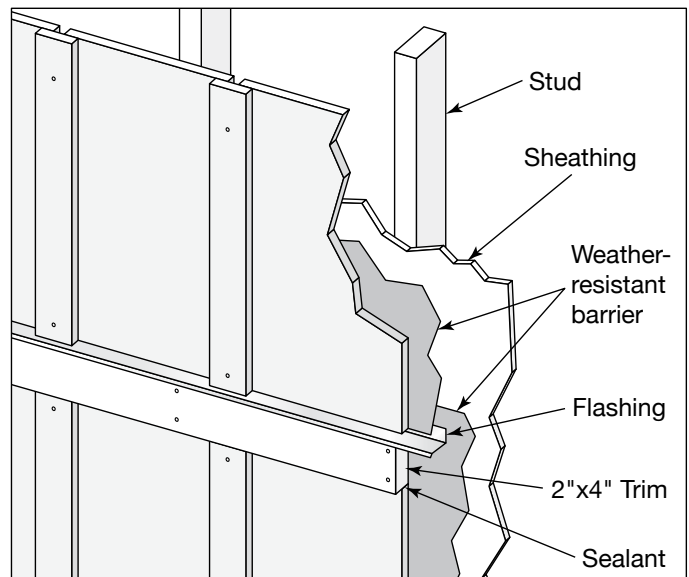

Fig. 7a
- Use a piece of z flashing tucked under the drainable weather-resistant barrier that extends to the front face of your horizontal trim (**Fig. 7a**).